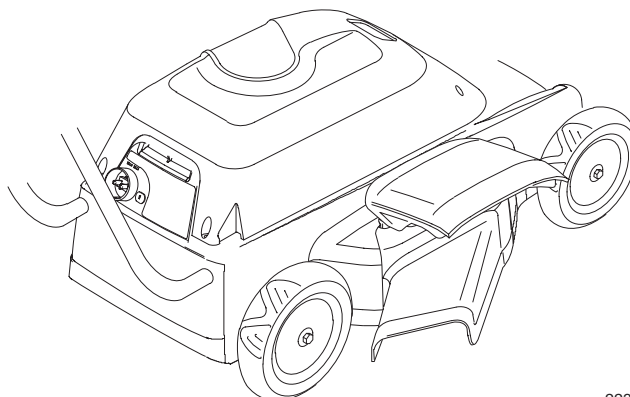

Figure 21
3. Lower mulch door on top of side discharge chute (Fig. 21).